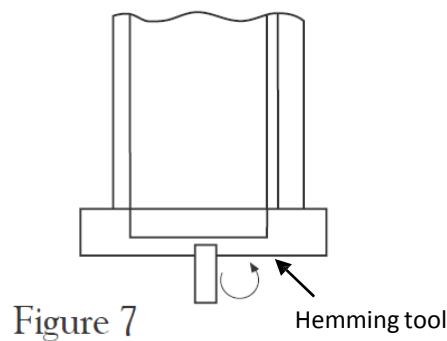

Figure 7
8. Using the hemming tool, bend the tab you've just made down and under, as shown in figures 7 and 8. If you are using extended eave trim, the hem can be slipped over the trim's lip.